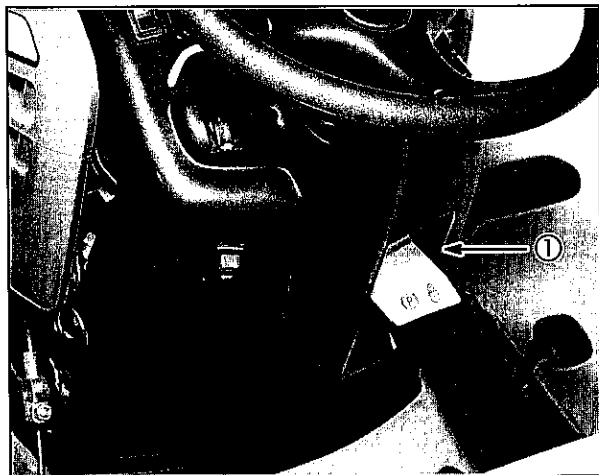

Fig. 33
The PowerLink™ system will not function unless the parking brake on the tractor is ENGAGED (1), Fig. 33, and the PTO on the tractor is OFF. The PowerLink™ system will shut down if there is a system or temperature overload, or if there is a ground fault.